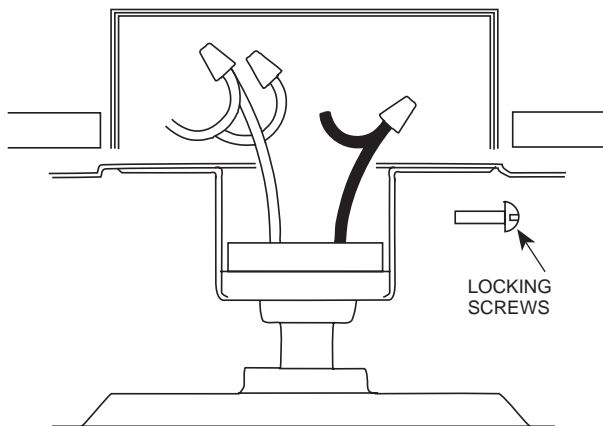

FIGURE 6
**A.** Using two 8-32 by approximately 5/8" long screws, from sack parts, thread the plastic hanger locking screws into the back of the hanger bracket. See Figure 6. The screws should be driven all the way into the bracket and tightened. The screws are located just above the plastic hanger and prevent the motor from twisting when the blades are assembled.